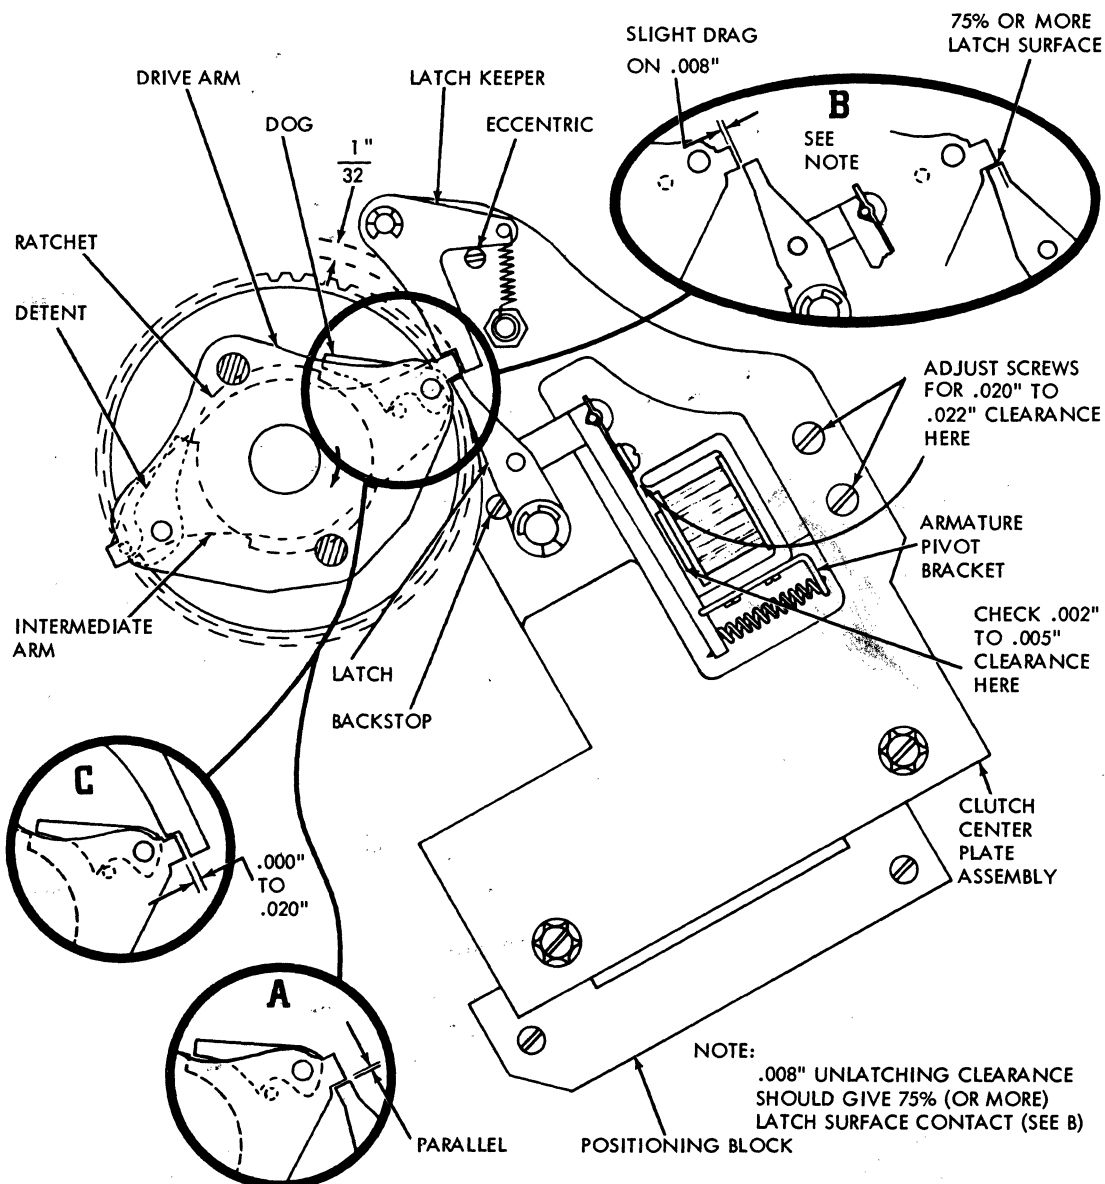
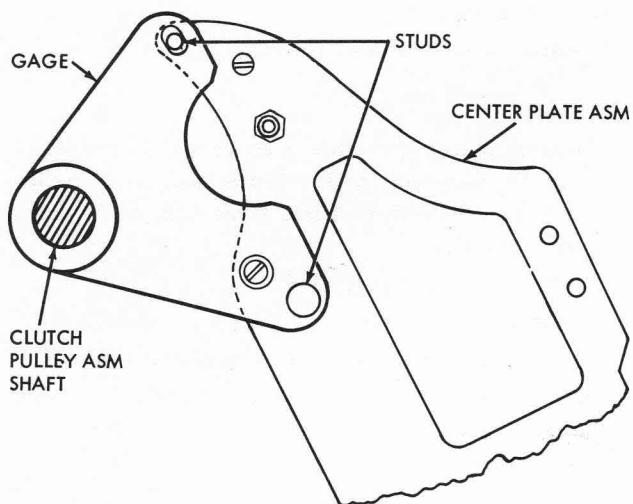

Figure 3-3. Reader Clutch Adjustments
Figure 3-4. Latch Assembly Plate Alignment
2. Remove latch keeper and latch from center plate assembly. See Figure 3-3.
3. Position locating gage on center plate assembly studs and clutch pulley shaft with positioning block loose. See Figure 3-4. Secure positioning block against bottom of center plate assembly as far to left as possible (Figure 3-3). Remove gage.
4. Reinstall latch keeper, spring, and latch. Follow *Clutch Pulley Assembly, Installation* for reassembly of clutch pulley assembly. See Figure 3-3.
5. Adjust armature pivot bracket to maintain .002" to .005" clearance between armature and core. See Figure 3-3.